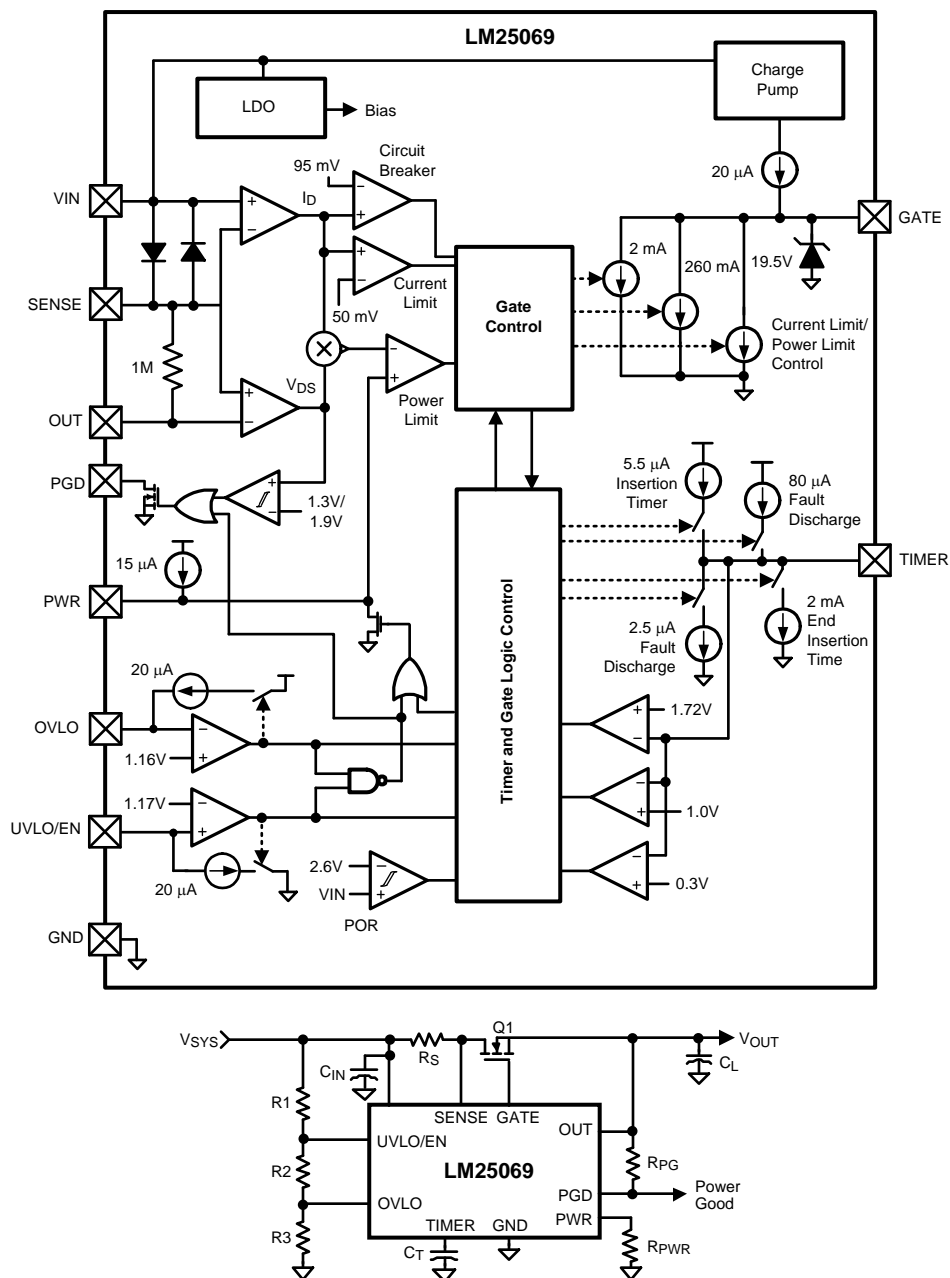
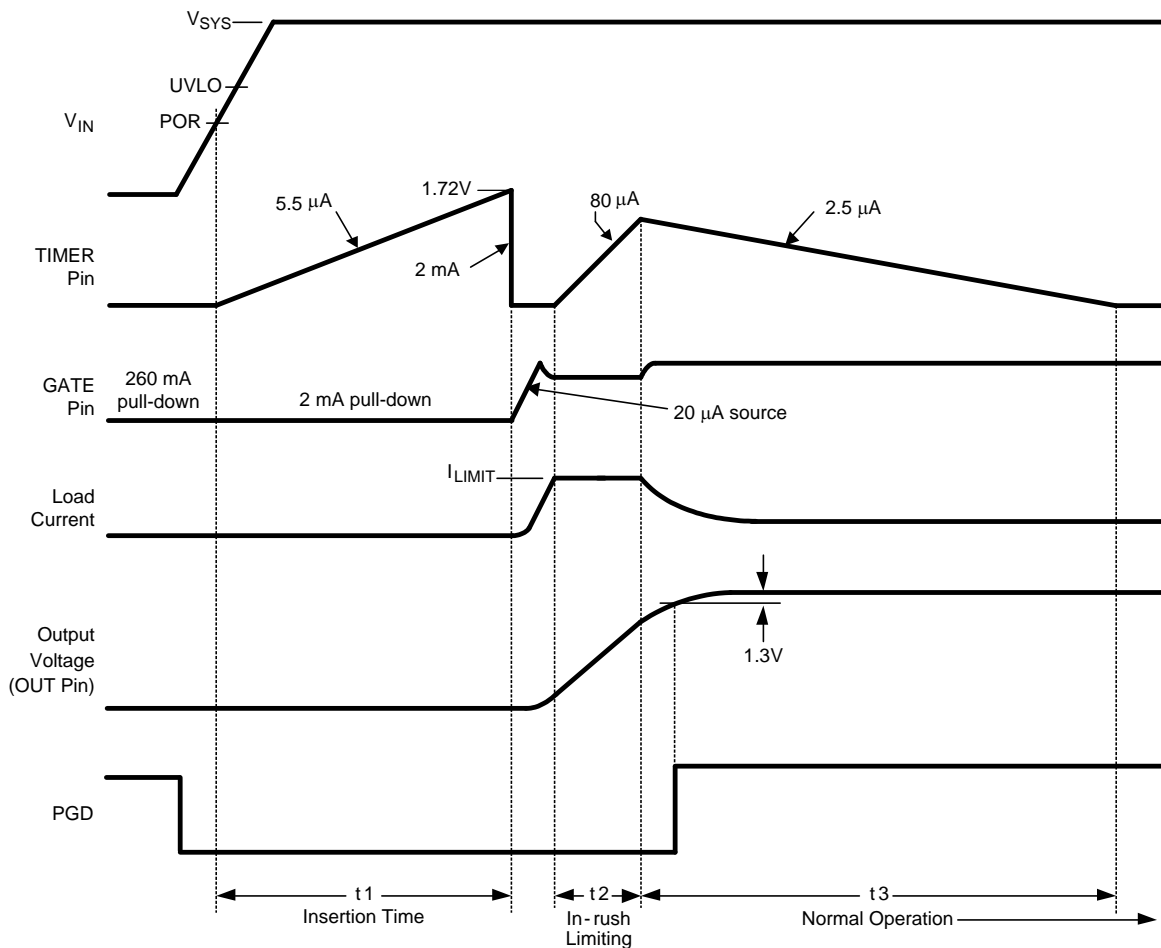

Figure 21. Basic Application Circuit
Figure 23. Power Up Sequence (Current Limit only)
The VIN operating range of the LM25069 is +2.9V to +17V, with a transient capability to 20V. Referring to the Block Diagram and Figure 21 and Figure 23, as the voltage at VIN initially increases, the external N-channel MOSFET (Q1) is held off by an internal 260 mA pull-down current at the GATE pin. The strong pull-down current at the GATE pin prevents an inadvertent turn-on as the MOSFET's gate-to-drain (Miller) capacitance is charged. Additionally, the TIMER pin is initially held at ground. When the VIN voltage reaches the POR threshold the insertion time begins. During the insertion time, the capacitor at the TIMER pin (C_T) is charged by a 5.5 μ A current source, and Q1 is held off by a 2 mA pull-down current at the GATE pin regardless of the VIN voltage. The insertion time delay allows ringing and transients at VIN to settle before Q1 is enabled. The insertion time ends when the TIMER pin voltage reaches 1.72V. C_T is then quickly discharged by an internal 2 mA pull-down current. The GATE pin then switches on Q1 when V_{SYS} exceeds the UVLO threshold. If V_{SYS} is above the UVLO threshold at the end of the insertion time, Q1 switches on at that time. The GATE pin charge pump sources 20 μ A to charge Q1's gate capacitance. The maximum voltage at the GATE pin is limited by an internal 19.5V zener diode.
As the voltage at the OUT pin increases, the LM25069 monitors the drain current and power dissipation of MOSFET Q1. In-rush current limiting and/or power limiting circuits actively control the current delivered to the load. During the in-rush limiting interval (t_2 in Figure 23) an internal 80 μ A fault timer current source charges C_T . If Q1's power dissipation and the input current reduce below their respective limiting thresholds before the TIMER pin reaches 1.72V the 80 μ A current source is switched off, and C_T is discharged by the internal 2.5 μ A current sink (t_3 in Figure 23). The in-rush limiting interval is complete when the voltage at the OUT pin increases to within 1.3V of the input voltage (V_{SYS}), and the PGD pin switches high.
A charge pump provides the voltage at the GATE pin to enhance the N-Channel MOSFET's gate. During normal operating conditions (t3 in Figure 23) the gate of Q1 is held charged by an internal 20 μ A current source. The voltage at the GATE pin (with respect to ground) is limited by an internal 19.5V zener diode. See the graph GATE Pin voltage. Since the gate-to-source voltage applied to Q1 could be as high as 19.5V during various conditions, a zener diode with the appropriate voltage rating must be added between the GATE and OUT pins if the maximum V_{GS} rating of the selected MOSFET is less than 19.5V. The external zener diode must have a forward current rating of at least 260 mA.
During the insertion time (t1 in Figure 23) the GATE pin is held low by a 2 mA pull-down current. This maintains Q1 in the off-state until the end of t1, regardless of the voltage at VIN or UVLO.
Following the insertion time, during t2 in Figure 23, the gate voltage of Q1 is modulated to keep the current or power dissipation level from exceeding the programmed levels. While in the current or power limiting mode the TIMER pin capacitor is charging. If the current and power limiting cease before the TIMER pin reaches 1.72V the TIMER pin capacitor then discharges, and the circuit enters normal operation.
The series pass MOSFET (Q1) is enabled when the input supply voltage (V_{SYS}) is within the operating range defined by the programmable under-voltage lockout (UVLO) and over-voltage lock-out (OVLO) levels. Typically the UVLO level at V_{SYS} is set with a resistor divider (R1-R3) as shown in Figure 21. Referring to the Block Diagram when V_{SYS} is below the UVLO level, the internal 20 μ A current source at UVLO is enabled, the current source at OVLO is off, and Q1 is held off by the 2 mA pull-down current at the GATE pin. As V_{SYS} is increased, raising the voltage at UVLO above its threshold the 20 μ A current source at UVLO is switched off, increasing the voltage at UVLO, providing hysteresis for this threshold. With the UVLO pin above its threshold, Q1 is switched on by the 20 μ A current source at the GATE pin if the insertion time delay has expired. See the Applications Section for a procedure to calculate the values of the threshold setting resistors (R1-R3). The minimum possible UVLO level at V_{SYS} can be set by connecting the UVLO pin to VIN. In this case Q1 is enabled after the insertion time.
Application Information (Refer to Figure 21)
A) Insertion Delay - Upon applying the system voltage (V_{SYS}) to the circuit, the external MOSFET (Q1) is held off during the insertion time (t_1 in Figure 23) to allow ringing and transients at V_{SYS} to settle. Since each backplane's response to a circuit card plug-in is unique, the worst case settling time must be determined for each application. The insertion time starts when VIN reaches the POR threshold, at which time the internal 5.5 μA current source charges C_T from 0V to 1.72V. The required capacitor value is calculated from: